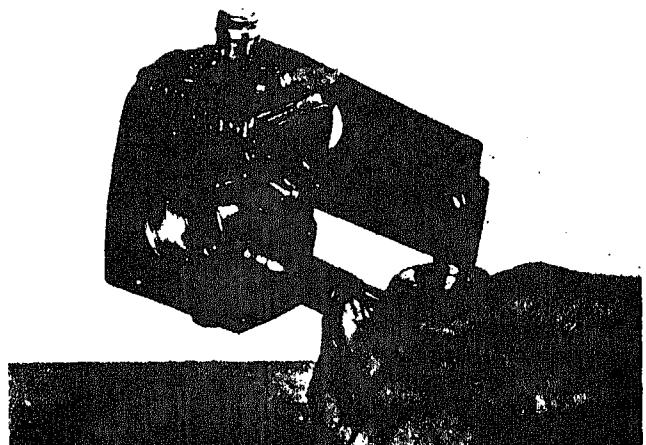

Fig. 507-7 Installing spring pack snap ring
2. Place the maximum-speed spring Table 507-4 over top of plunger guide and place shim against spring, install spring retainer and snap ring securing assembly into governor sleeve. Fig. 507-7.